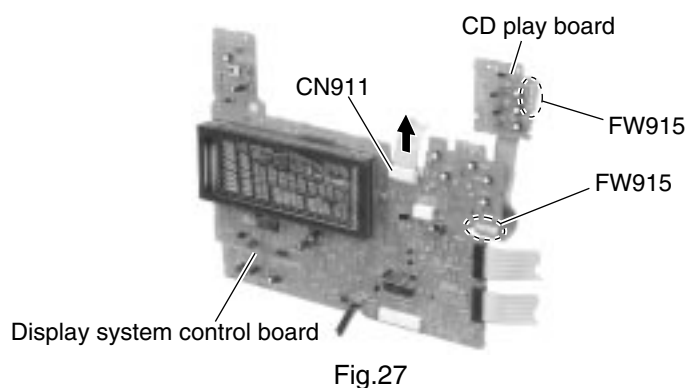

Fig.27
■ Removing the CD play board (See Fig.27 and 28)